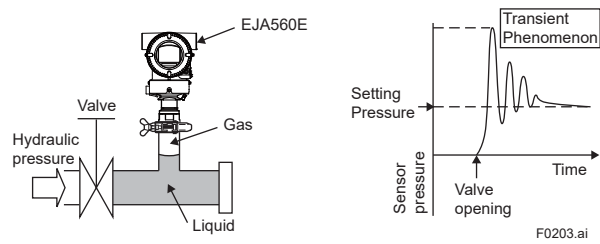

Figure 2.3 Surge Pressure of Bubbly Mixed Fluid When Installed to the Upper End of the Pipe
- (1) If pressure is applied up to the withstand pressure limit over the allowable overpressure, re-calibration is required.
- (2) Exercise care not to exceed the breakdown withstand voltage. Doing so may damage the wetted part, which may cause process fluid to leak. The normal sanitary clamp has a withstanding pressure of 1 MPa. If there is a possibility that pressure greater than 1 MPa is applied, use a clamp, etc. with the required pressure resistance.
- (3) Behavior with regards to Over Pressure Applied pressure also include maximum momentary pressure (surge pressure). The measurement method of this sensor is pressure detection using strain of metal diaphragm. The maximum momentary pressure exceeding the above pressure affects the characteristics of the sensor. The causes of the momentary pressure (surge pressure) are considered as follows:
- Surge pressure of bubbly mixed fluid when installed to the upper end of the pipe (Figure 2.3)